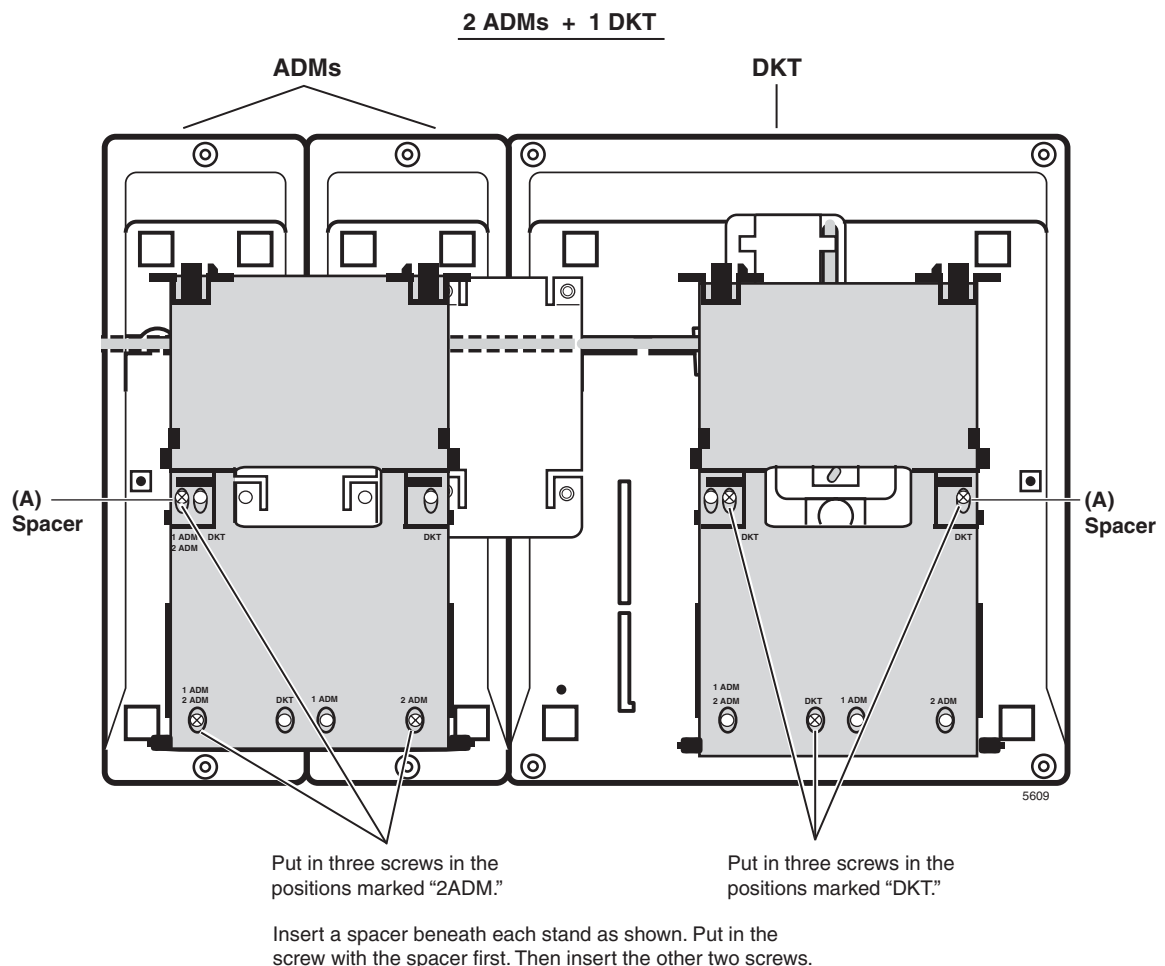

Figure 7-23 Attach Tilt Stands to DKT with Two ADMs
4. Place the spacers on the outer holes, as shown (see Figure 7-23).
4. Place the spacers on the outer holes, as shown (see Figure 7-23.